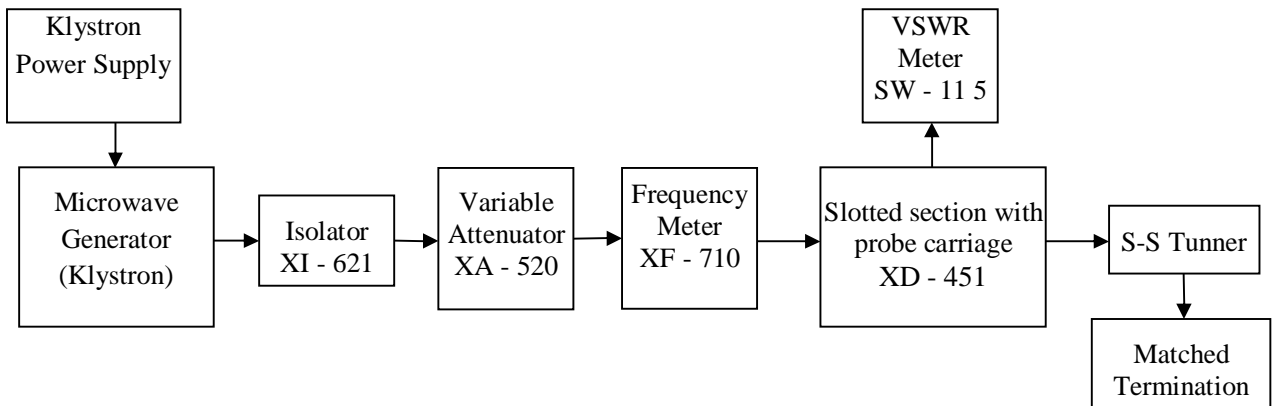

Fig.5.1 Experimental set up for VSWR measurement
1. Set up the equipments as shown in Fig.5.1.